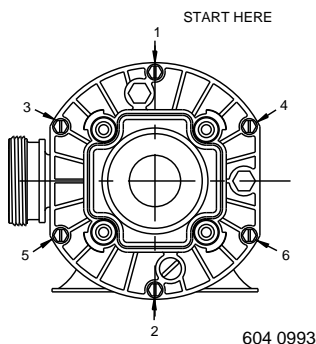

Figure 18: Torque Sequence
6. Remount front plate; using pattern shown in Figure 18, torque bolts to 30 inch-lbs. (34.5kg-cm). **BE SURE** to start with bolt in 12 o'clock position as shown.